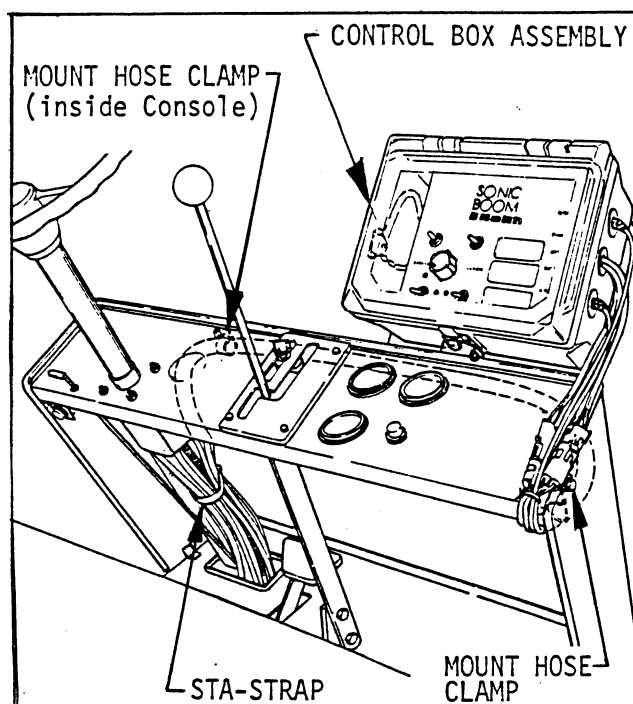

FIG. 4
■ Bring the Cables and Wire Assembly up and over the edge of the Dash Panel as shown in FIG. 4.